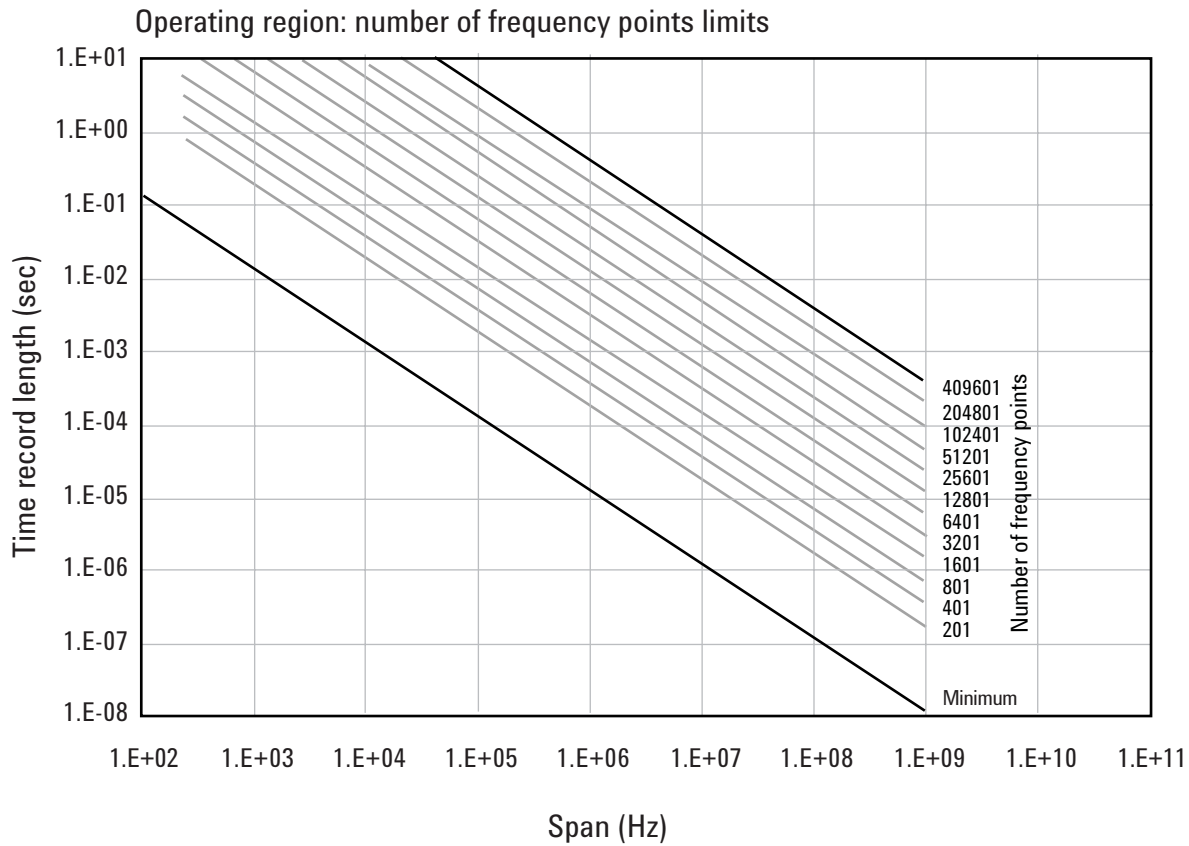

Figure 3. The user-settable parameter, frequency points, begins to determine the boundaries of the time record length and frequency span operating region.
The operating region is described in terms of span and time record length. For a given window type it could just as easily be described in terms of span and RBW. Figure 3 shows the effects of the number of time points the 89600 VSA software is allowed to collect. Because sample spacing is inversely proportional to span, the record length decreases as span increases. Although a family of lines is shown, only two define the operating region at any one time. The lowest line gives the smallest time record length allowed for any given span. The position of this line is determined by minimum number of time points (16) the VSA requires in a time record. The line that defines the upper time record length boundary is positioned by the maximum number of time points the VSA allows in a time record. The maximum number of time points is determined by the Frequency Points setting (**MeasSetup/ResBW-Frequency Points**). The 89600 VSA is constrained to operate in the region between these two lines. Note that the operating lines of Figure 3 are the same for all 6000 Series models.